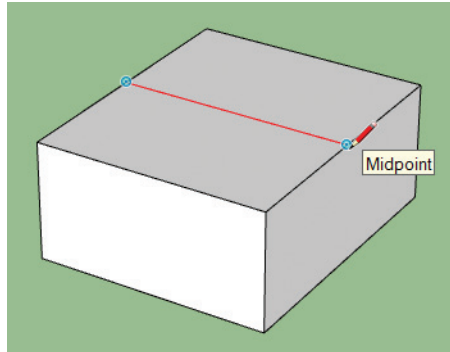

Figure 2.15: Object snapping while drawing a line on a box
- **Object snapping**—Like other CAD software, SketchUp offers a complete set of object snaps. This allows you to snap to endpoints, midpoints, edges, circle centers, and other locations. (See **Figure 2.15**.)